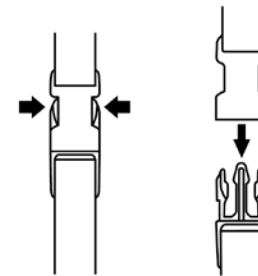

Fig. 5C
1. Press both sides of the release button with one hand and pull the straps apart. The machine can be released quickly from the operator in the event of an emergency (e.g., sparks, smoking, or vibrating abnormally). (Fig. 5C)